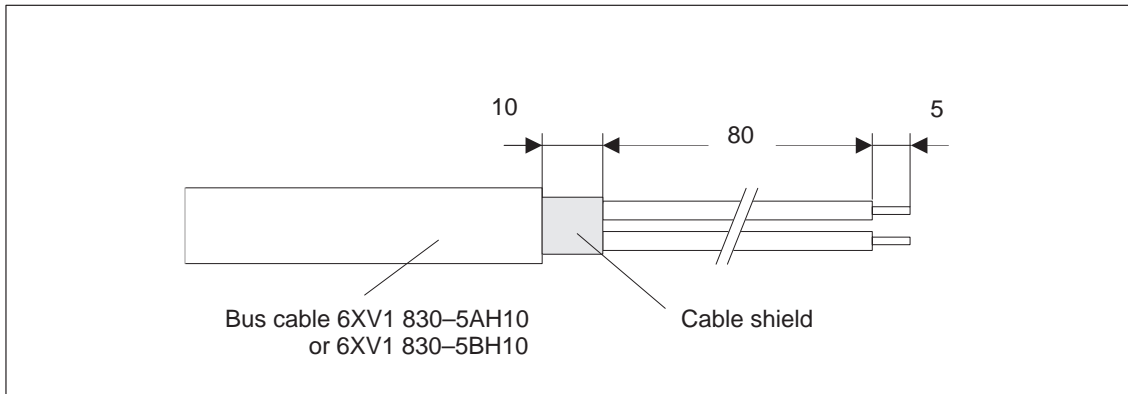

Figure 3-12 Preparation of the bus cable, **devices with PROFIBUS PA**
1. Strip back the bus cable insulation as shown in Figure 3-12.